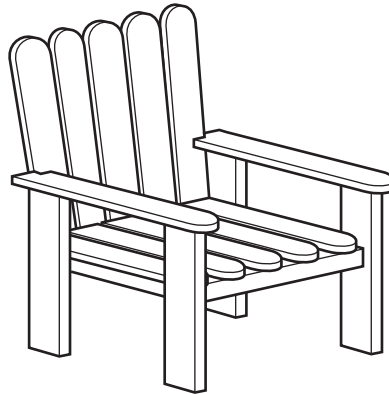

Fig. 1
- 1 Fig. 1 shows a beach chair.